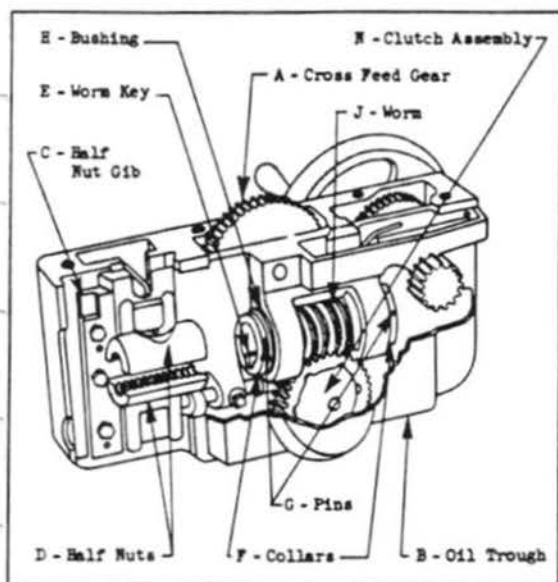
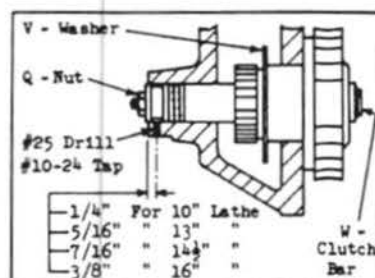
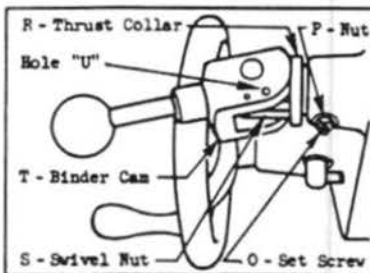
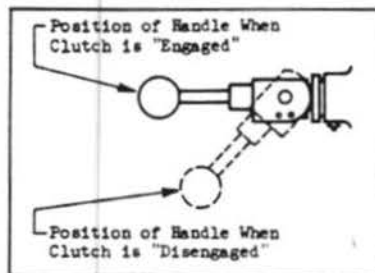

Fig. 1
Fig. 3
Fig. 4
Fig. 5
7. Remove apron from lathe by lifting up on the front of the saddle so the cross feed gear "A" (Fig. 1) in the apron will clear the saddle. Then slide apron off the lead screw at the tailstock end of the lathe but be careful not to bend lead screw.
8. Remove oil trough "B", half nut gib "C", half nuts "D" and key "E" (Fig. 1).
9. Mark the two collars "F" (Fig. 1) so when reassembling they can be replaced in their original position. Then drive out the two pins at "G" and unscrew both collars "F".
10. Remove bushing "E" (Fig. 1) carefully to avoid tearing felt wick. Note how felt wick is wrapped around worm gear. With bushing removed draw wick through hole bored for bushing.
13. Remove clutch assembly "N" (Fig. 1) from back of apron. The oil distributing washer "V" (Fig. 3) on the clutch may have to be positioned to permit removing.
14. Drill and tap hole in bottom of apron hub as shown in Fig. 3, then file bottom of hub flat so nut can be locked against this surface.
15. Install screw "O" and nut "P" (Fig. 4) but do not let screw "O" protrude into bored hole.
16. Position oil distributing washer "V" (Fig. 3) inside apron and insert new clutch assembly (Fig. 3). Apply slight pressure on clutch bar "W" (Fig. 3) and tighten set screw "O" and nut "P" (Fig. 4).
17. Apply pressure on clutch bar "W" (Fig. 3), remove nut "Q" and commercial washers (discard nut and washers). Maintain pressure on clutch bar, install collar "R" and swivel nut "S" (Fig. 4). Screw the swivel nut on tight enough so the handle will lock itself against the thrust collar in the "engaged" position (Fig. 5). It is important to maintain pressure on clutch bar until swivel nut "S" is fastened as allowing it to back up more than 3/32" may cause the outside clutch plate to drop over the clutch sleeve and become distorted when tightened later.
18. Swing handle into a down or "disengaged" position (Fig. 5) and tighten swivel nut "S" (draw up as tight as possible) with Allen head wrench through hole shown at "U" (Fig. 4).
29. The clutch lever can be positioned (Fig. 5) by loosening set screw "O" and rotating the complete clutch assembly, then tighten set screw "O" and lock with nut "P". BEFORE TIGHTENING THE SET SCREW, HOWEVER, PULL SLIGHTLY ON THE CLUTCH LEVER ALLOWING THE CLUTCH MECHANISM TO COME FORWARD AS FAR AS POSSIBLE.